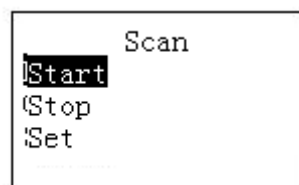

Figure 4-4
- a) On the keyboard click **【SCAN】** button, the interface is shown as below. See Figure 4-4.